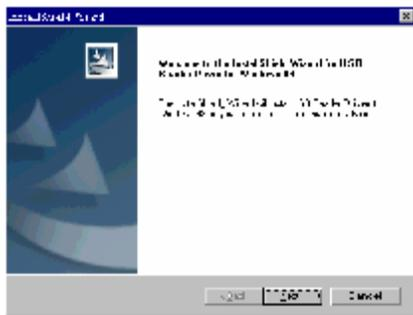

Figure 3-19
5. When the preparation is complete, the screen will prompt to continue the operation. See Figure 3-19. Click "Next" to start installation.